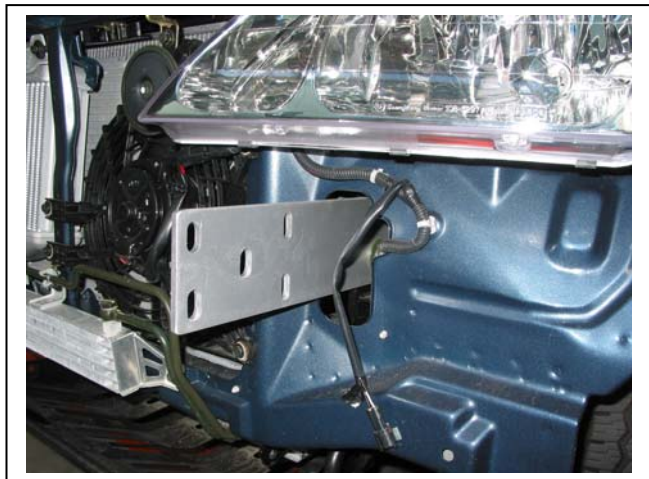

Figure 3 – Passenger side shown
6. Fit 100mm upper steel mounting brackets (supplied) to chassis. Use original 22mm head bolts. **FINGER TIGHTEN ONLY. See figure 3.**